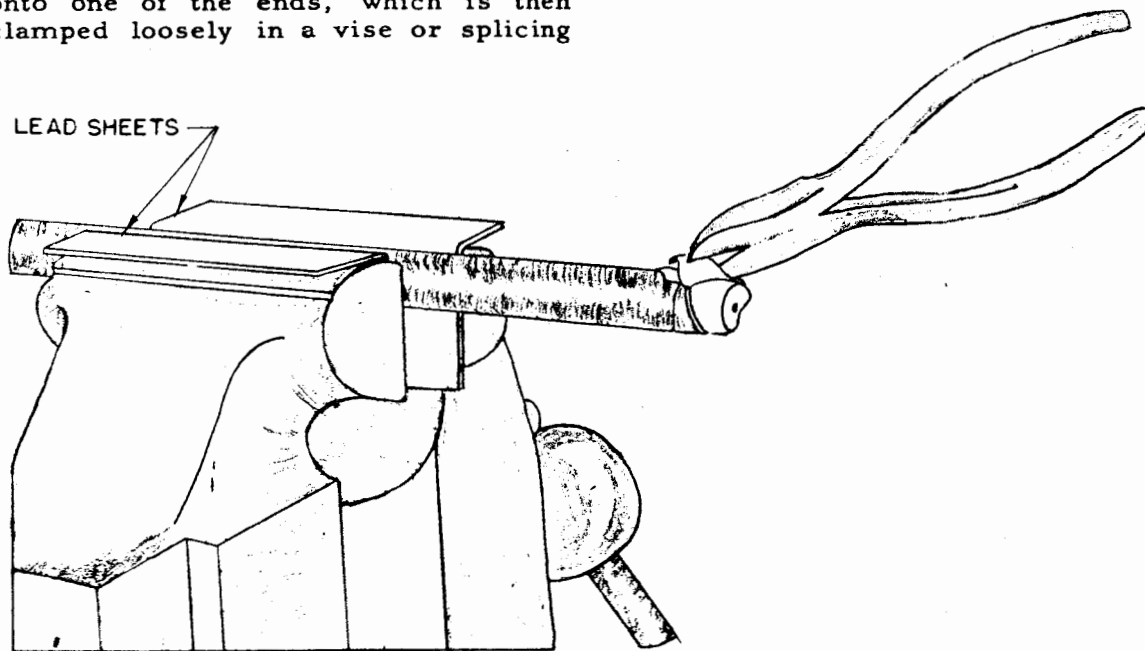
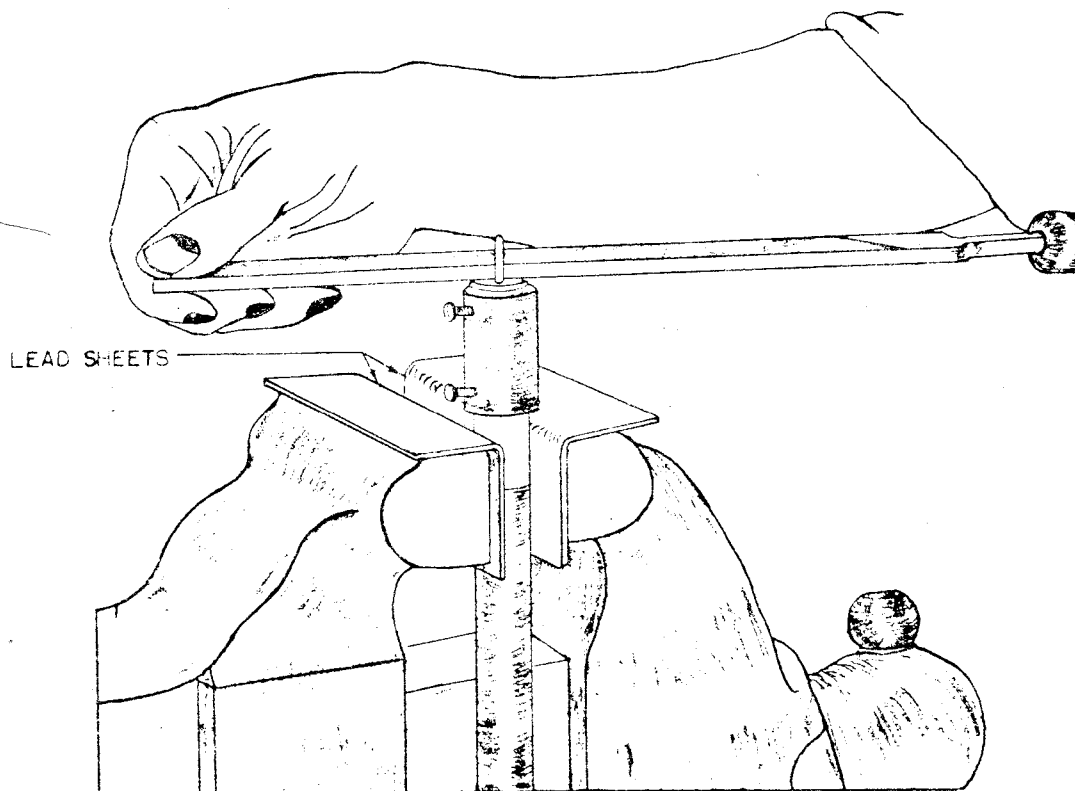
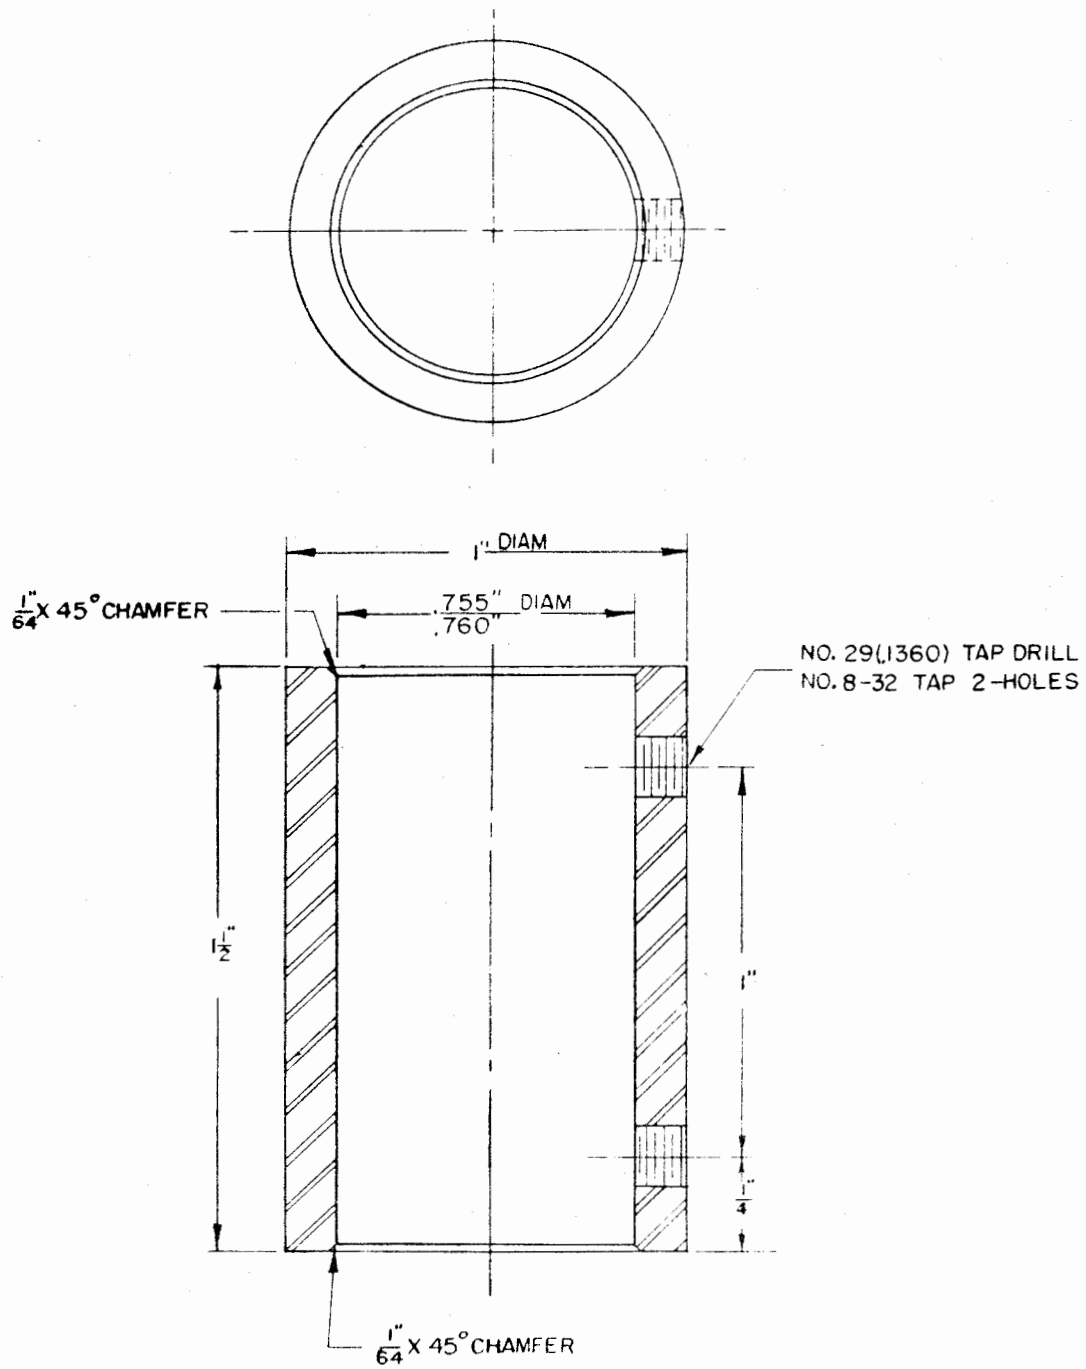

Figure 11-108. Peeling Outer Conductor of RG-82/U To Groove Made by Tube Cutter in Order to Produce Square End Without Burr
Figure 11-109. Squaring End of RG-82/U by Use of Sleeve and Lathe File
Figure 11-110. Drawing of Squaring Sleeve for RG-82/U
(5) Cut the end of the outer conductor at an angle with diagonal cutting pliers in the same way that a key-opening tin can is opened. Spiralling should progress downwards until the split reaches the groove made by the tube cutter; peeling is then continued all around the groove (Figure 11-108).
(6) With a razor blade or sharp, thin, knife blade, shave the entire dielectric square with the outer conductor.
(7) Place a squaring sleeve on the Pyrotanax with the end $1/64$ inch or more, as required, from the end of the outer conductor. (The squaring sleeve is a short tube of hardened steel which fits closely over the Pyrotanax and has true-square ends.) A set screw holds it in position. See Figure 11-109.
(8) If the center conductor is to be flush with the outer, cut it with a fine saw with light strokes, or with cutting pliers held close to the dielectric.
(9) File the end square, with the squaring sleeve used as a guide. Filing should be limited to the minimum necessary to provide a true surface. Choice of file is important for good results without burrs. A 10-inch long angle-lathe file is best for this purpose. Otherwise, a small mill-smooth or dead-smooth file may be used and the surface of the file chalked to prevent pinning. The edges of the file should be made "safe" by grinding off the cut, if any, to prevent damage to the inner conductor in installations requiring it to extend beyond the outer conductor. (The lathe file is normally "safe".) Alternatively, a piece of wiring "spaghetti" can be slipped over the inner conductor for the same purpose. Figure 11-110 is a drawing of the squaring sleeve.
(10) Take out the sleeve and remove any external burrs with fine emery cloth.